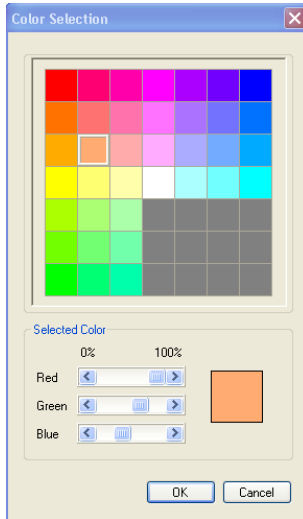

Figure 41: Select Button Color
5. Set the Button Color (see Figure 41).